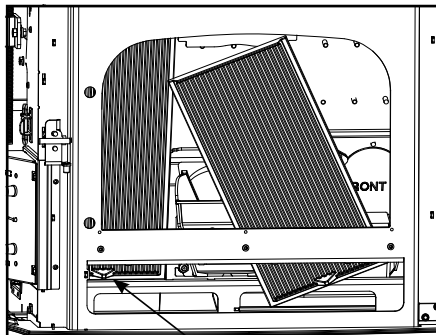

Figure 5.4a
4. Tip the top of the heat exchanger toward the middle of the opening until it can be lifted up and out. Figure 5.4a